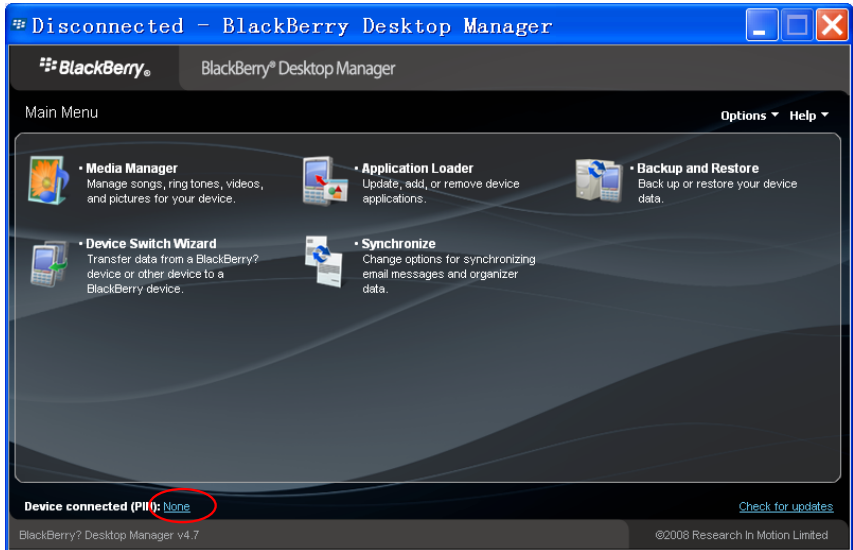

Fig 1
4. Before the installation, open the BlackBerry Desktop Manager. Shown as the red sign on the following pictures, Fig1 means the phone isn’t connected to the PC, Fig2 means the phone has been connected to the PC.